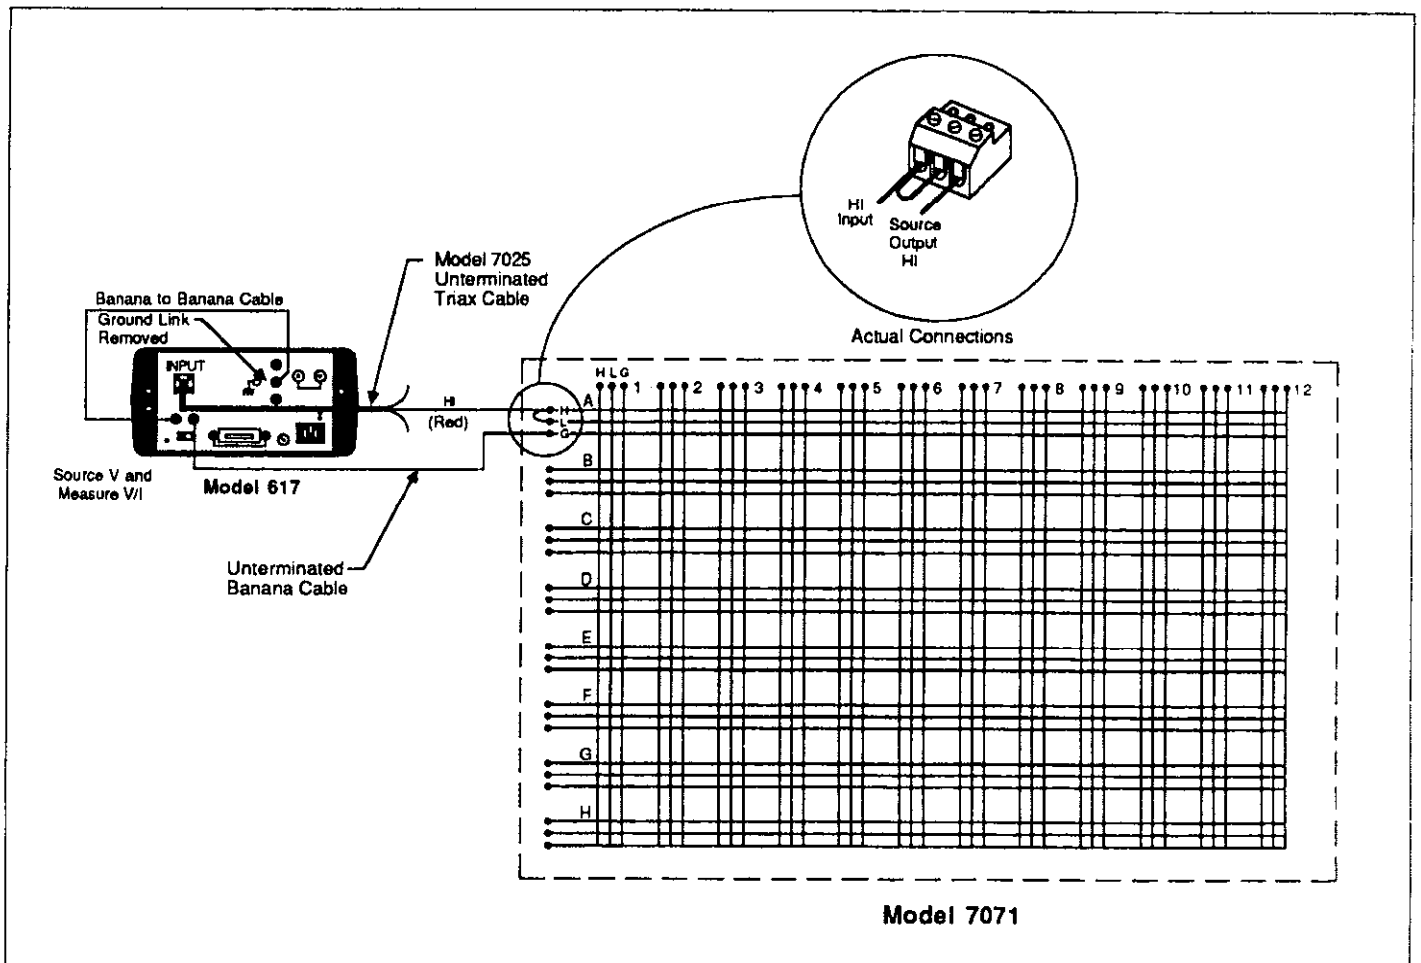

Figure 4-8. Common Mode Isolation Testing
18. Remove the terminal block from the matrix card and rewire the it as shown in Figure 4-8.